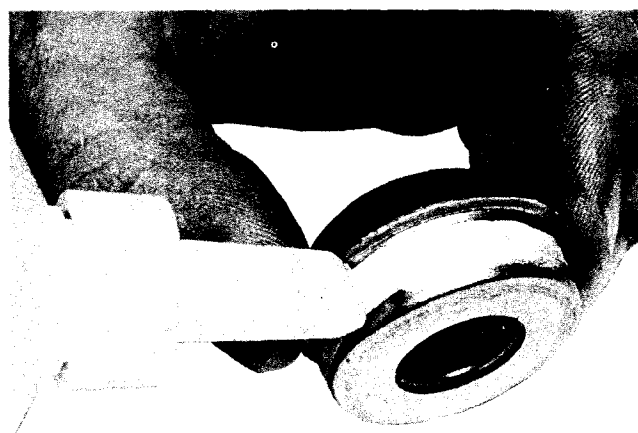

Fig. 8-10, (N10853). Apply pipe sealant to seal
9. Turn water pump housing over and support drive end of housing. Apply Loctite 3375066 to outside diameter of brass case on the seal (15). Fig. 8-10. Using 3375448 Mandrel, press carbon face seal into housing until seal bottoms out.
8. Support assembly on impeller end of shaft, press drive pulley (1) onto shaft until it bottoms on the bearing inner race.
9. Turn water pump inlet housing over and support drive end of housing. Apply Loctite 3376066 to outside diameter of brass case on the seal (13). Fig. 8-10. Using 3375448 Mandrel, press carbon face seal into housing until seal bottoms out. Fig. 8-20.
10. Using 3375448 Mandrel, press the new cup seat (12) into place over shaft. 3375448 Mandrel is designed to position the cup seat to an exact location against the carbon face seal.
11. Supporting drive end of shaft (6), press impeller (1) on shaft maintaining 0.020 to 0.040 inch [0.51 to 1.02 mm] clearance between impeller vanes and housing.